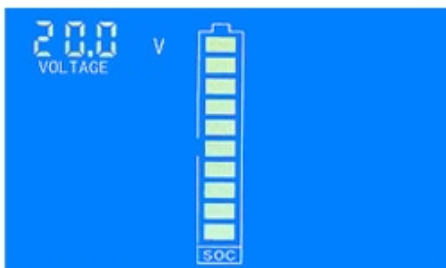
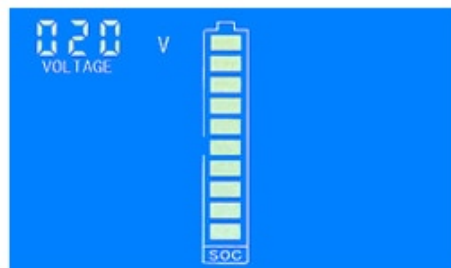

Figure 3: full voltage setting interface (low bit)
Figure 4: full voltage setting interface (high bit)
Step 2: SET character blink present it is the setting status of full / cut-off voltage, long press the button until the LCD screen displays the interface like fig. 3, then release the button.
Step 3: At this time, the battery symbol display full grids energy means the full voltage setting status, factory default the full voltage is 020.0V, the numerical code circulation flashing from the low bit to the high bit show that the current setting digit, short press to set the digit; please pay attention that, as the full voltage setting value has 4 digit, but the numerical code has only 3 digit, so the setting is divided into two parts: low bit (fig. 3) + high bit (fig. 4). For example, the default full voltage is 020.0V, then the display state is 20.0V to 020V low and high cyclic switching display. If you need to set the full voltage is 199.0V, then please set the low bit to 99.0V, when the cycle reaches the high bit, it will display 099V, and only the highest zero bit flicker to prompt it can be set. Setting the high bit to 199V represents the full voltage is 199.0V.